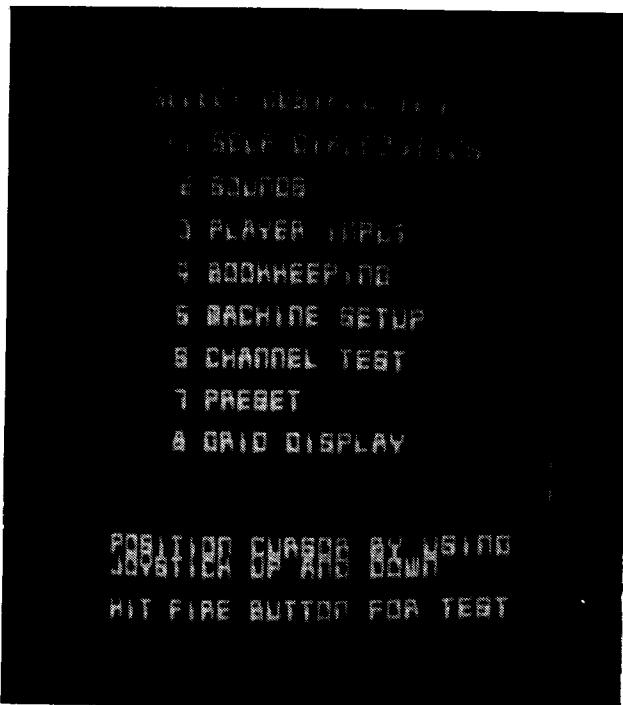

Figure 4 Self-Test—Menue
The Self-Test mode has eight (8) major categories as illustrated by Figure 4.